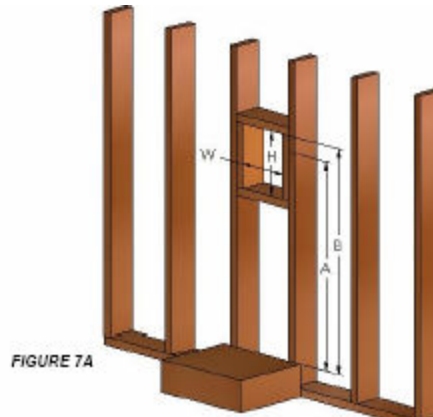

FIGURE 7A
To achieve the minimum horizontal venting requirements, for **RIGID PIPE APPLICATIONS**, a minimum of 41 1/4" (A) to the top of the vent pipe and 44 1/4" (B) to the top of the framed opening from the floor or hearth the fireplace is setting on is required. See Figure 7A.